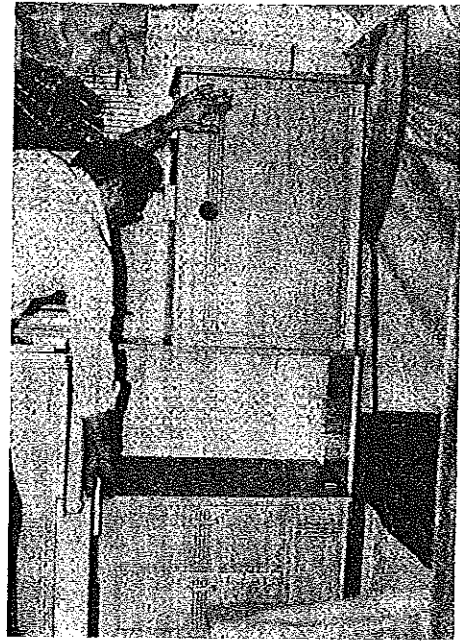

FIGURE 16
21. Using your free hand, turn the locking latches 90° to secure the cabinet in place. See Figure 16.